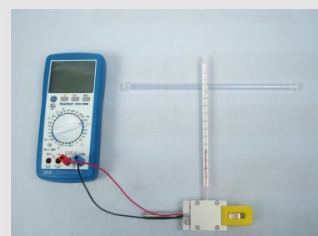

Figure 7
6. To prevent the thermometer from slipping out of the opening during the experiment, you can place the other end of the thermometer, for example, on the sheath in which it is kept in the box (Fig. 7).